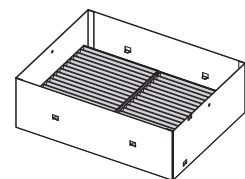

Fig. 3
- When the two air filter units are attached **(Fig. 3)**, proceed to “Attaching the long life filter cover” (➔ page 250) next.